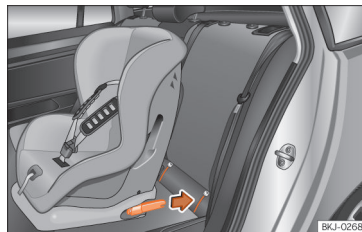

Fig. 39 Rear seats: fitting a child seat with the ISOFIX system.
- Press the child seat onto the ISOFIX or iSize retaining rings until it is heard to engage securely »» Fig. 39. If the child seat is equipped with Top Tether anchor points, secure it to the correspondent ring »» page 59. Follow the child seat manufacturer's instructions.